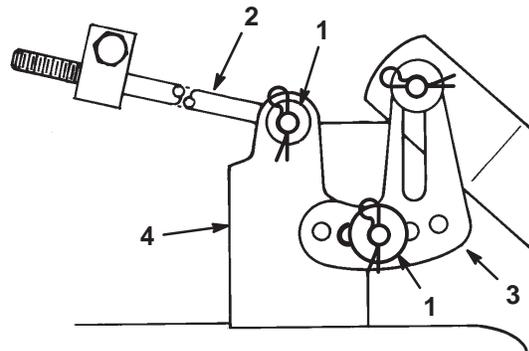

Figure 40
- Remove the hairpin cotter and washer from the end of the long rod (Fig. 40). Slide the rod out of the mower mount.
- Remove the hairpin cotter and washer at the mower leveling bracket (Fig. 40). Slide the bracket off the mounting pin. Install the washer and hairpin cotter for storage.